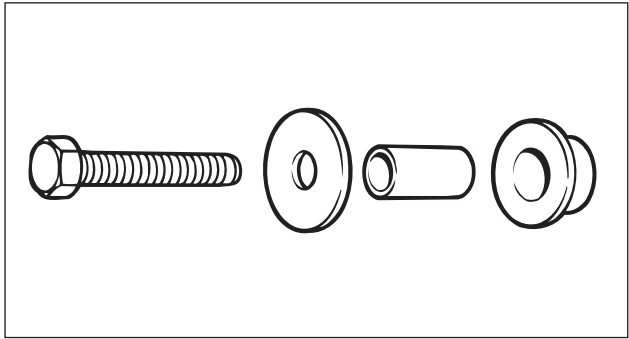

FIG. 23
4. Install flat washer, new sleeve and new noise isolator on the capscrew (see Fig. 23).